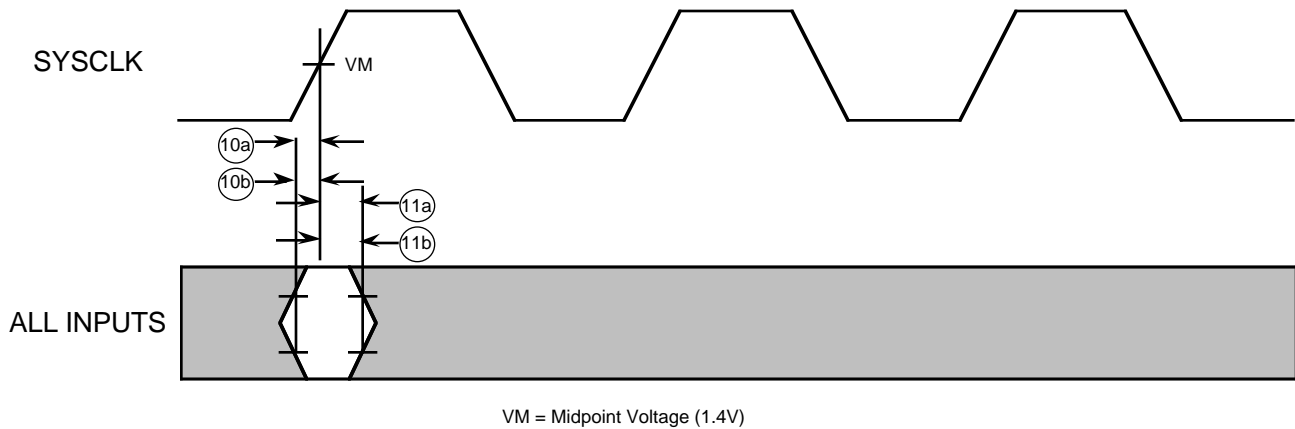
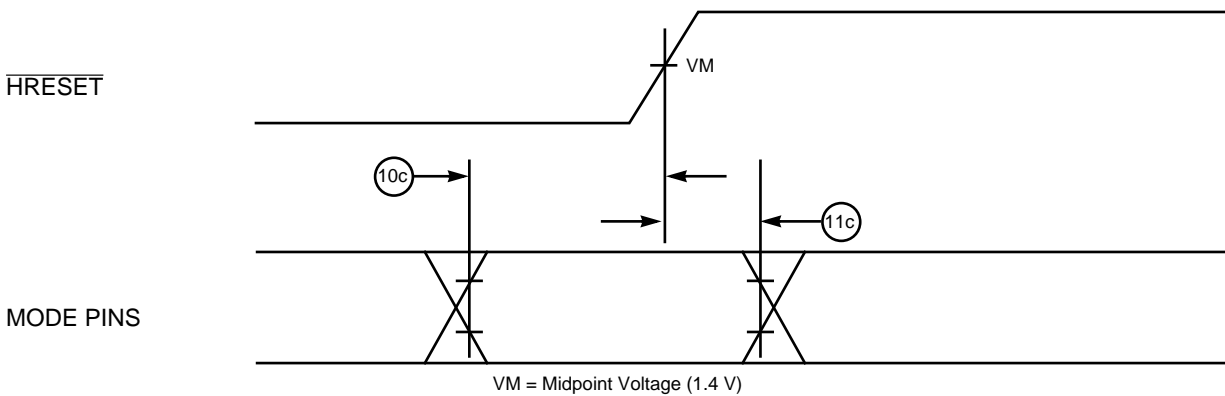

Figure 2. Input Timing Diagram
Figure 3. Mode Select Input Timing Diagram
Table 6 provides the input AC timing specifications for the 603 as defined in Figure 2 and Figure 3. These specifications are for 25, 33.33, 40, 50, and 66.67 MHz bus clock (SYSClk) frequencies.
Notes: 1. All input specifications are measured from the TTL level (0.8 or 2.0 V) of the signal in question to the 1.4 V of the rising edge of the input SYSCLK. Both input and output timings are measured at the pin. See Figure 2.
4. The setup and hold time is with respect to the rising edge of $\overline{\text{HRESET}}$. See Figure 3.